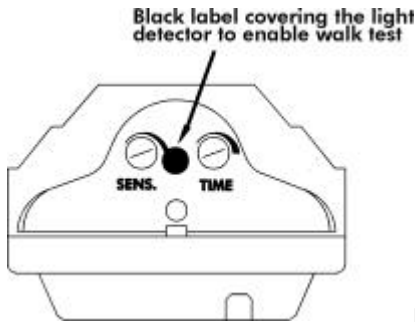

FIGURE 10
(1) TEST MODE
- Make sure that the black label is stuck on photocell sensor (FIGURE 10).